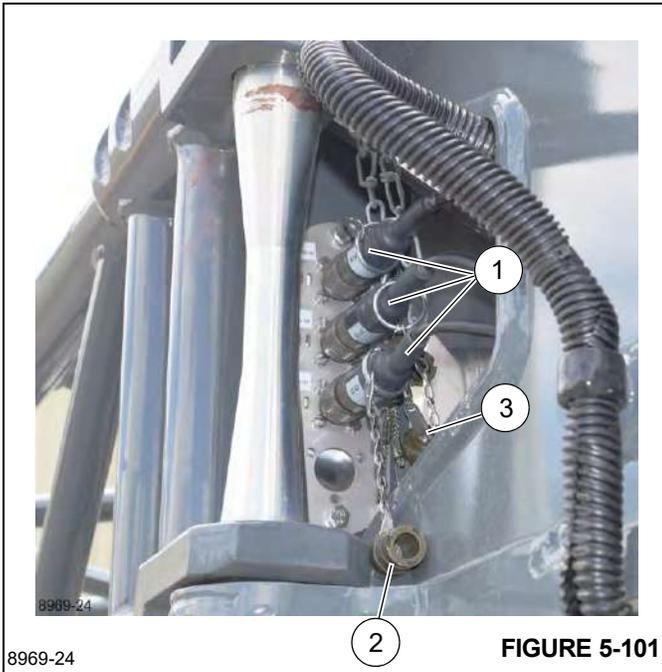

FIGURE 5-101
- a. Remove the plugs (1), (Figure 5-101) from the sockets and seal the plugs with their caps (2). Seal the sockets with their caps (3).